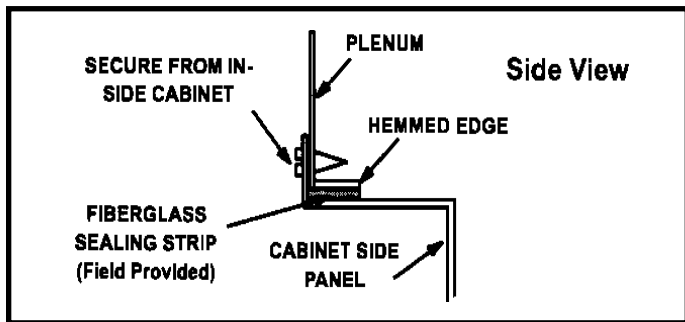

Figure 11
4. In closet installations, it may be impossible to install sheet metal screws from the outside. In this case, make plenum with a removable front and install screws from the inside (See Figure 11).